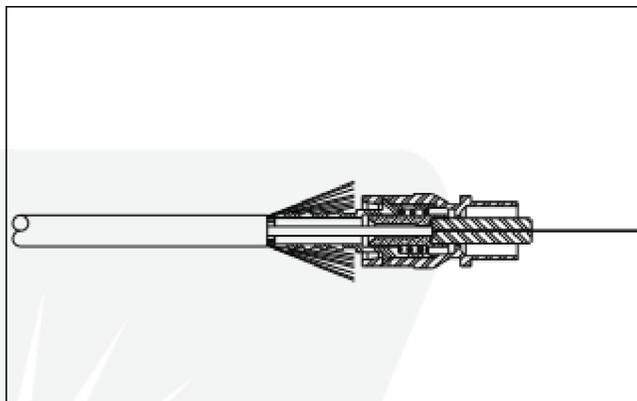

Figure 5: Drawing of buffer properly seated against the ferrule (954 SC connector shown).
6. Insert the clean fiber into the connector to ensure the buffer strip length is correct and the ferrule hole is the proper size. If properly stripped, the rear body of the connector should not be resting on the outer jacket, but should be as close as possible - refer to Figure 5. If the fiber meets resistance, rotate the ferrule while applying light forward pressure. If still unsuccessful, back the fiber out and check to see if the fiber hole is obstructed by holding the ferrule up to a light. If obstructed, use cleaning wire to remove the obstruction. Simply draw the cleaning wire through the ferrule hole by feeding the wire through the ferrule or rear body of the connector. It may be necessary to repeat this process to ensure that all of the obstruction has been removed. Re-cleaning the fiber may also be necessary. For single mode applications, a larger hole size may be required if the clean fiber will not fit into a clean, unobstructed ferrule.